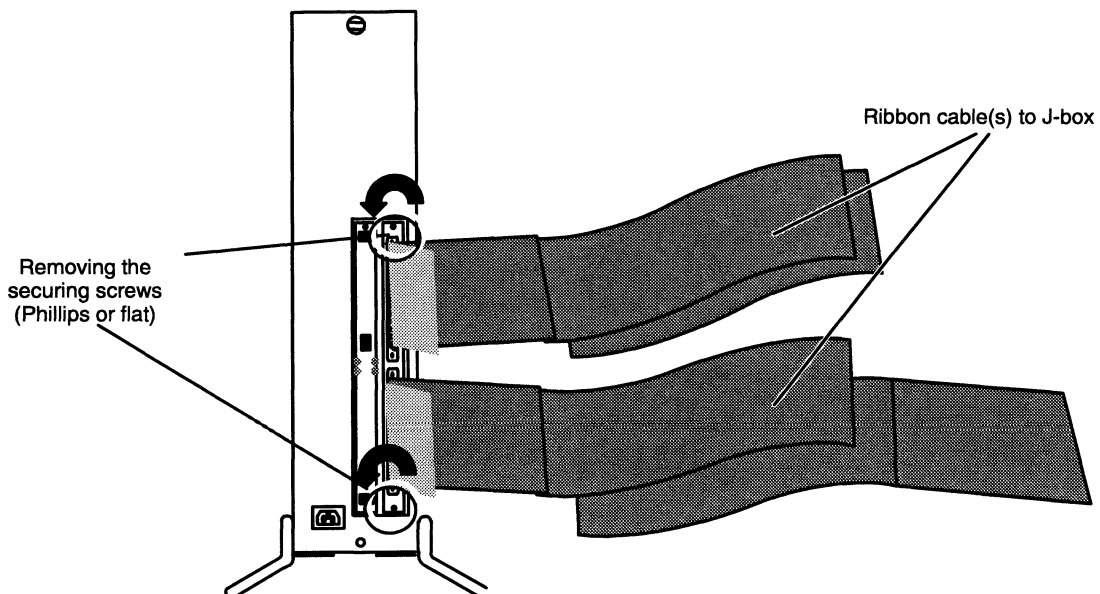

Figure D-2 Releasing Air Dam Screws
3. Remove the securing screws and any washers on the top and bottom of the board's air dam, shown in Figure D-2.